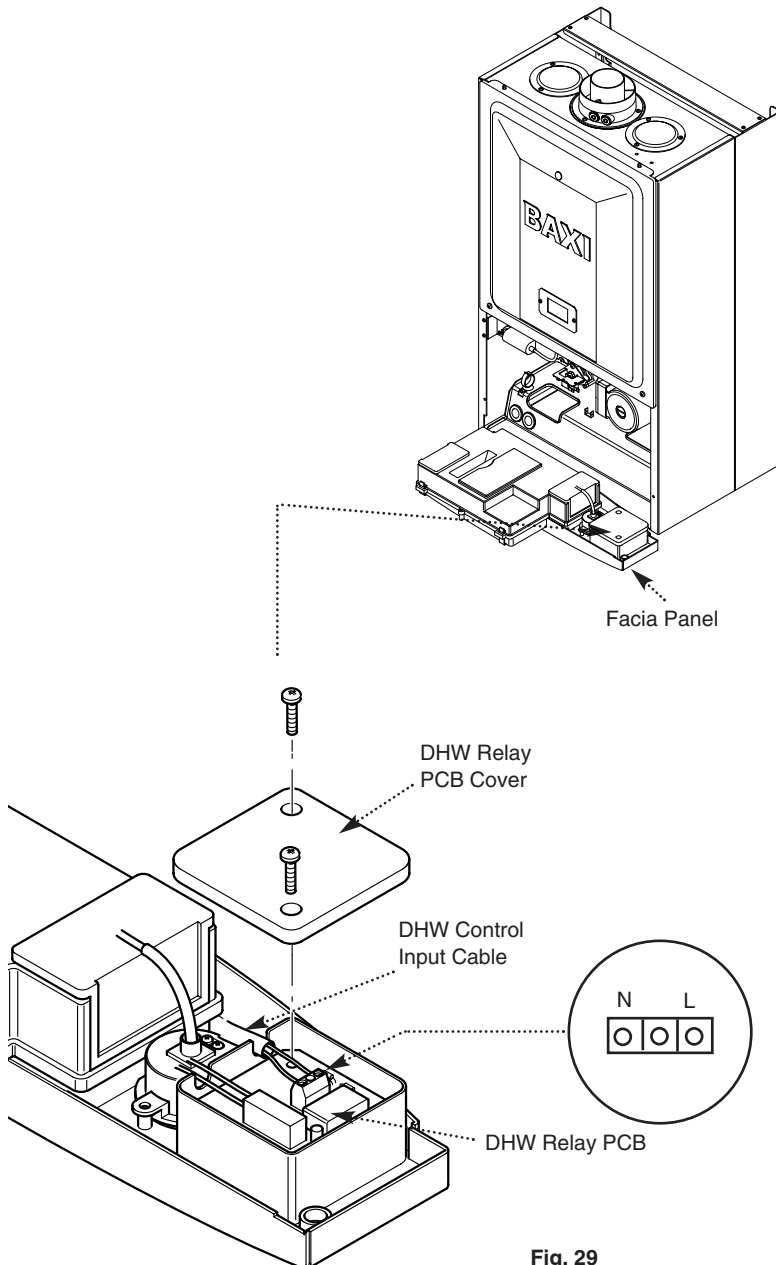

Fig. 29
4. Undo the screws securing the DHW relay PCB cover. Remove the cover. Slacken the screws in the terminal block on the PCB and connect the switched live and neutral (Fig. 29).